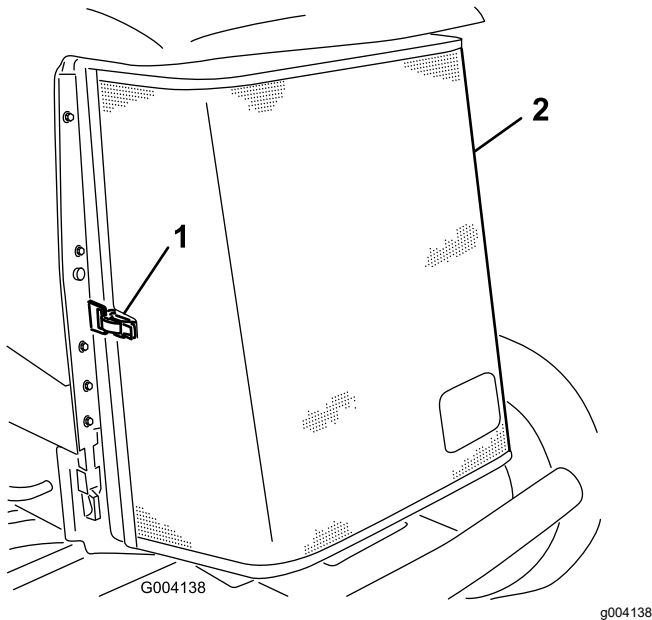

Figure 86
3. Unlatch the clamp and pivot open the rear screen (Figure 86).